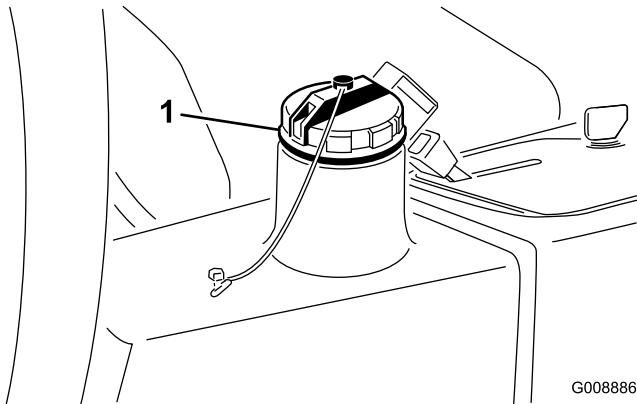

Figure 71
4. Fill the reservoir (Figure 71) with approximately 3.5 U.S. gallons (13.2 l) of hydraulic fluid; refer to Checking the Hydraulic System.